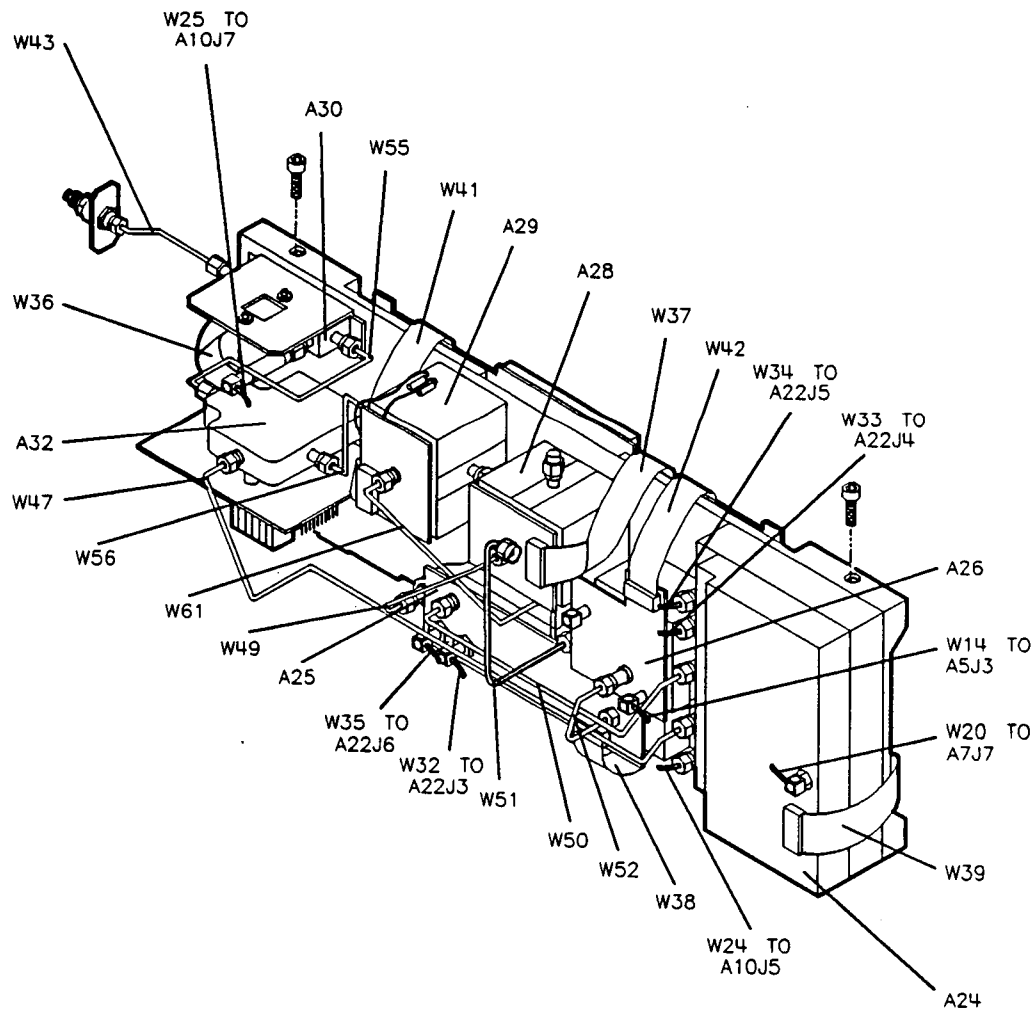

Figure 7-27. RF Deck Cable Locations - HP 83651A
Note: For the following procedures, refer to Figure 7-27 and Figure 7-28 for cable locations and Figure 7-29 for screw locations.
1. Remove cable W25 (Figure 7-27 and Figure 7-28).
4. Refer to Figure 7-27 and Figure 7-28. Loosen semi-rigid cable W55 at its connection to directional coupler A30.
1. Remove ribbon cable W37, and cables W49 and W61 (Figure 7-27 and Figure 7-28).
1. Remove ribbon cable W41, and cables W56 and W61 (Figure 7-27).
1. Remove ribbon cable W38, and cables W32, W35, W49, W50, W51, and W52 (Figure 7-27 and Figure 7-28).
1. Remove W14, W52, and ribbon cable W42 (Figure 7-27 and Figure 7-28).
1. Remove W20, W24, W33, W34, W47, W50, and ribbon cable W39 (Figure 7-27 and Figure 7-28).